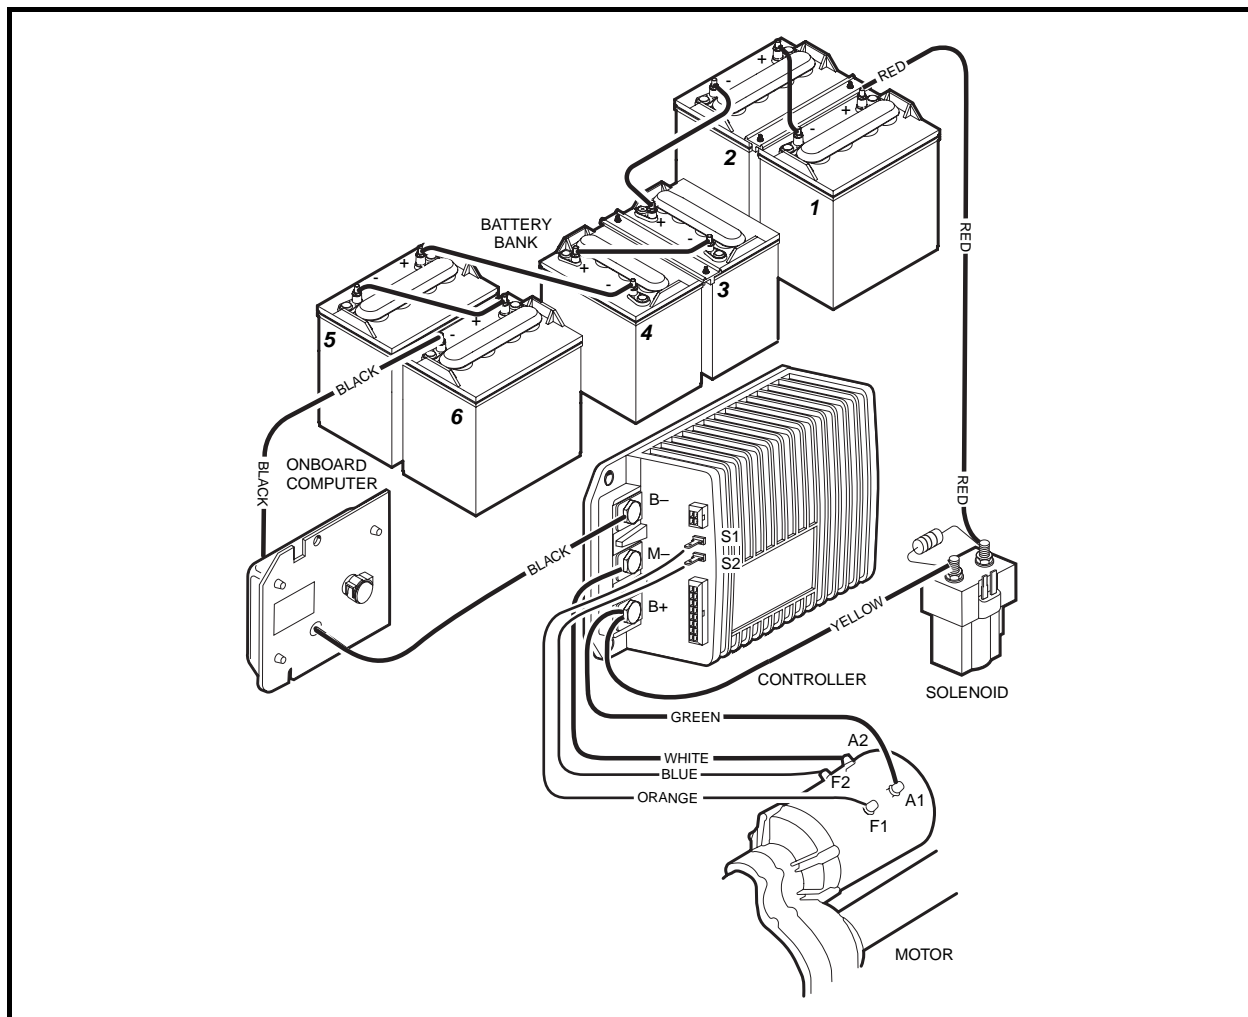

Figure 11-4 Power Circuit
- Power circuit (**Figure 11-4, Page 11-8**)